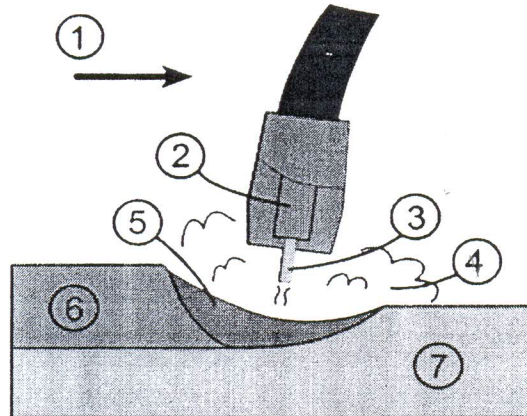

Figure 2
- b) List all the part of MIG touch as show below (figure 2)